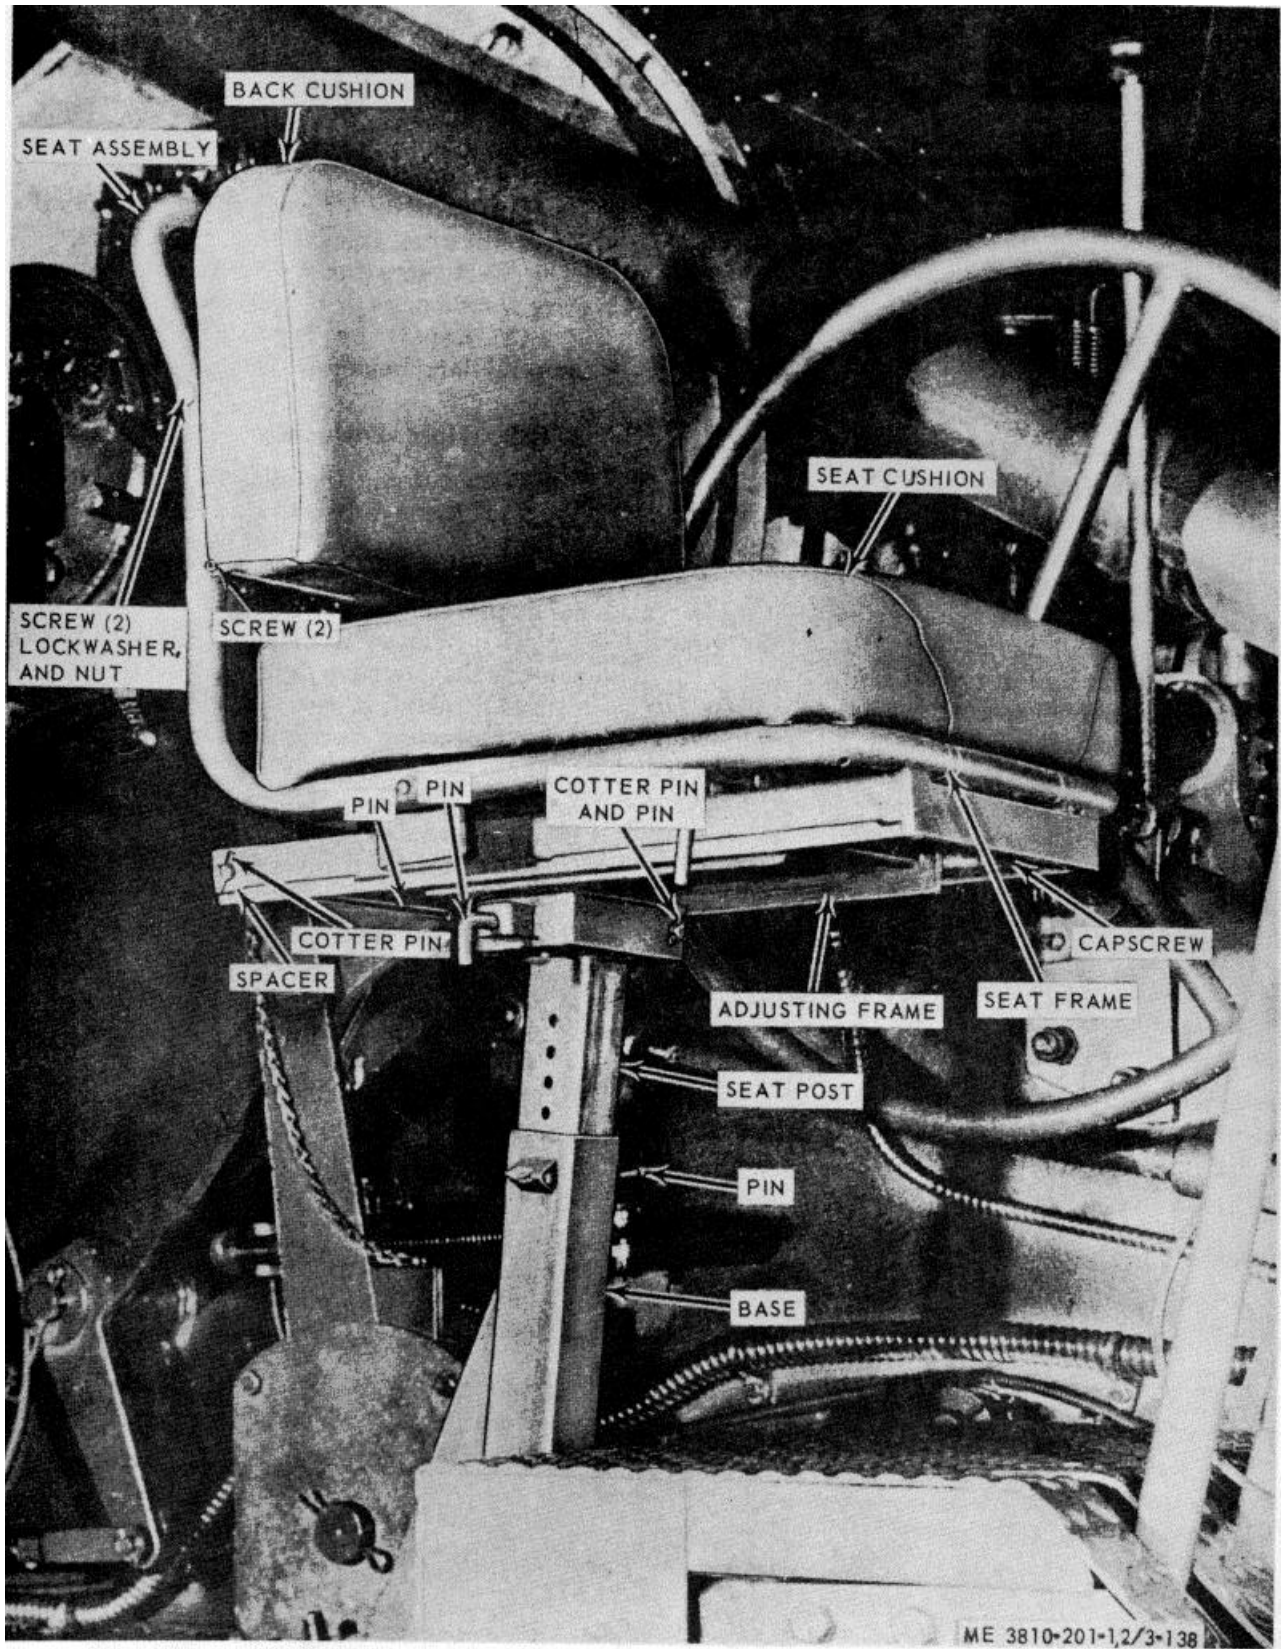

Figure 3-138. Operator's seat, removal and installation (Model 855BG-3).
(1) Refer to figure 3-138 and remove operator's seat.
(2) Install in reverse order.